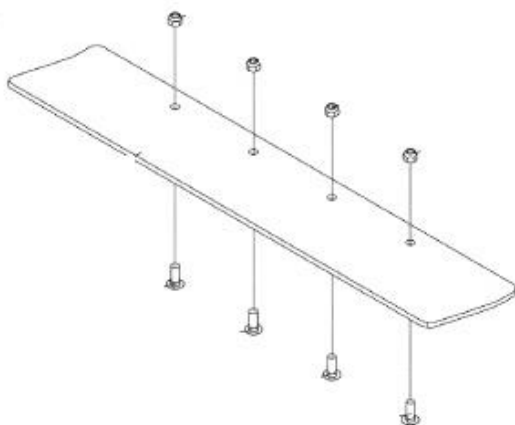

Figure 28
- Each of the UHMW guides are positioned in the middle of each cutter bar section. They are retained to the cutter bar with four 3/8"X1" carriage bolts and lock nuts. The holes for the guides are in the cutter bar on Model Year 18 and newer. On older units the holes for mounting the guides will need to be drilled. Figure 28